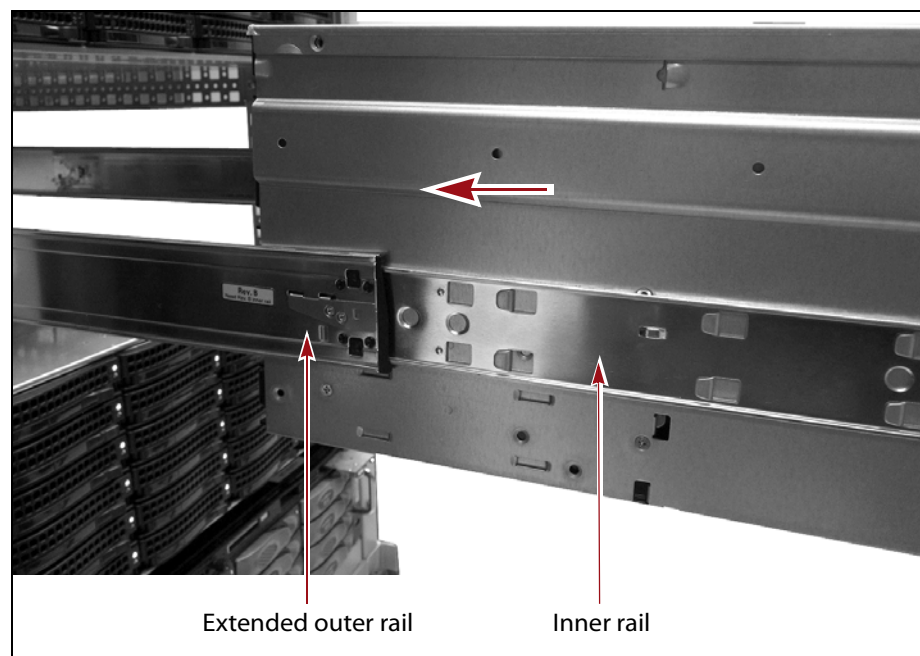

Figure 21 Extend the outer rails and slide the chassis into rack.
1. Pull the center sections of the outer rails out of the rack until they are fully extended (see Figure 21).